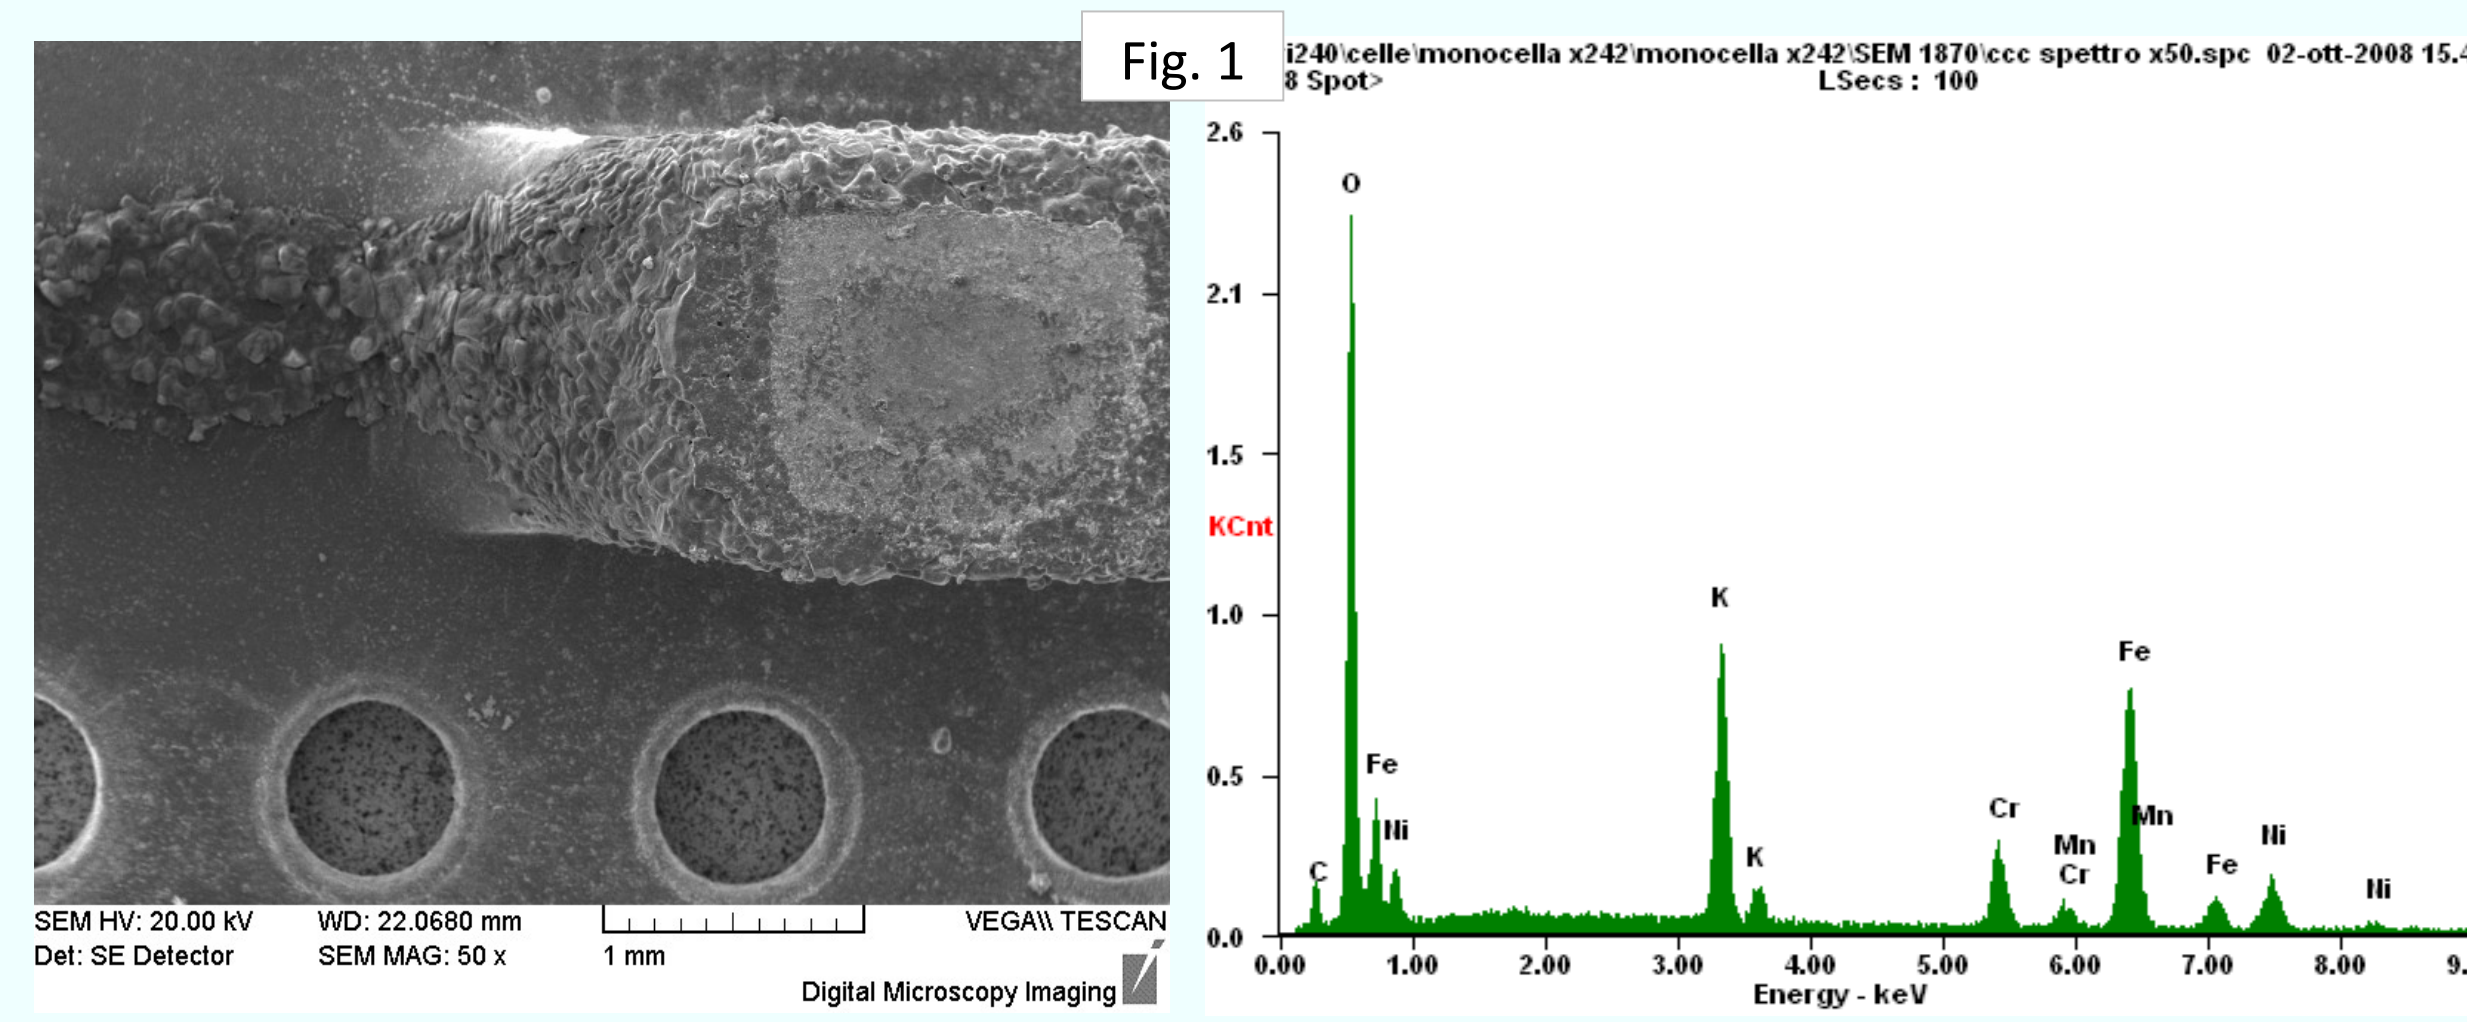

Fig. 1
- SEM with energy dispersive X-ray spectrometer (EDS) and metallurgical microscope (Fig. 1 and Fig. 2);